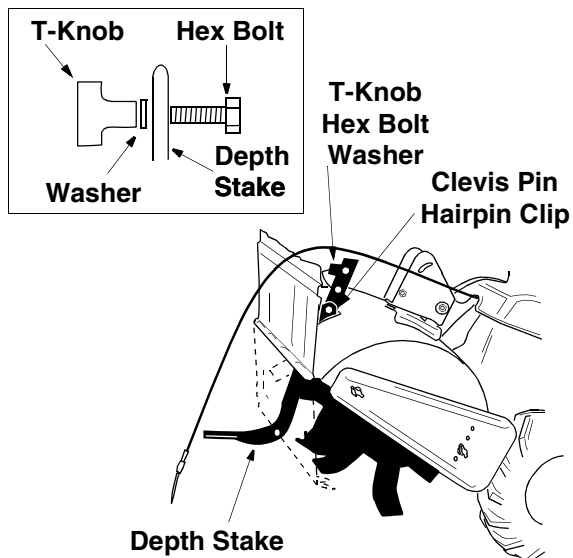

Figure 2
- Raise the tine shield hinge flap assembly. Remove "T" knob, flat washer and hex bolt from depth stake. Insert the depth stake assembly in front of spacer (under the tine shield) and up through the tine shield assembly as shown in Figure 2.
- Insert hex bolt into the top hole of the depth stake assembly. Place flat washer on hex bolt and thread "T" knob onto the hex bolt. See Figure 2. Tighten securely.